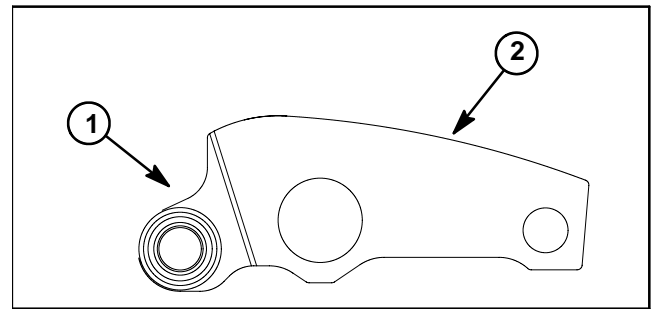

Figure 13
2. Inspect the compression spring (item 2) and replace if damaged or fatigued.
3. Clean and inspect shoulder screws (item 9). If the shoulder area of the screws is worn or if the threads are damaged, replace the screws.
4. Check the contact surface of the clutch weights (Fig. 13). If surface is worn or damaged, replace all three (3) clutch weights as a set.